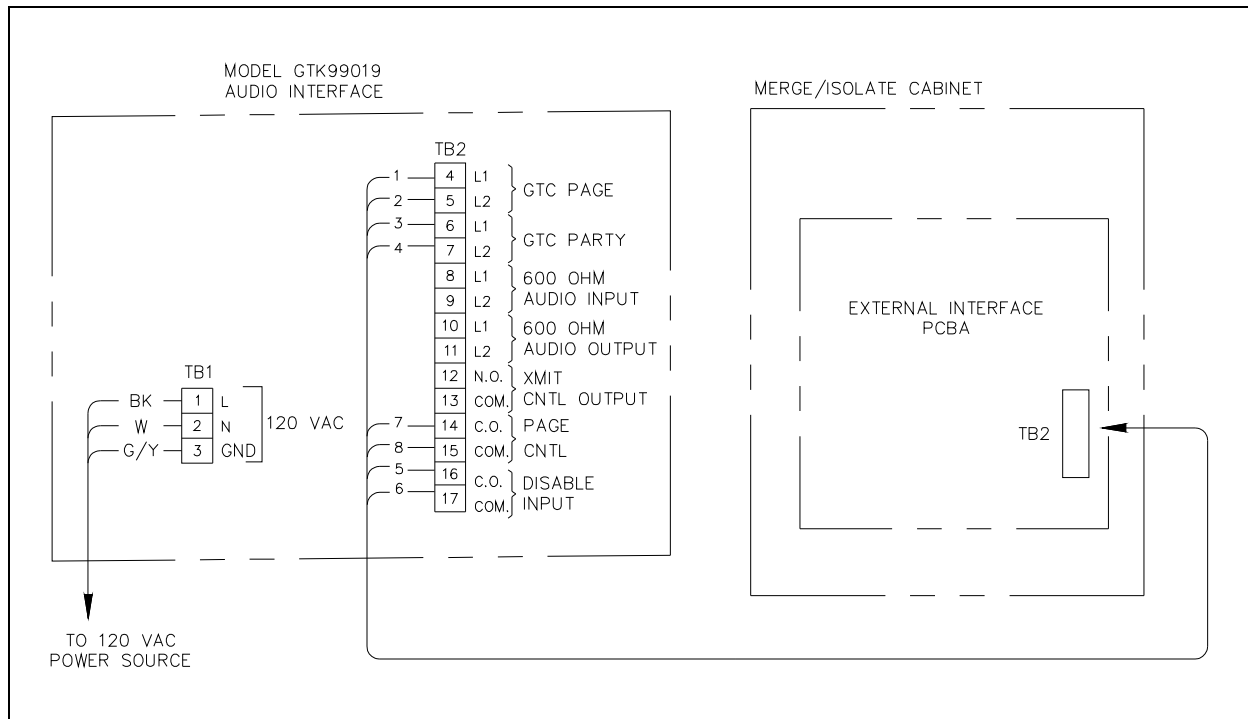

Figure 5. Model GTK99019 Audio Interface Connection Diagram
3. Connect the audio interface to the Model MI05-101 Merge/Isolate Cabinet’s external interface PCBA as follows using a 4-pair, No. 18–20 AWG cable. Refer to Figure 5.